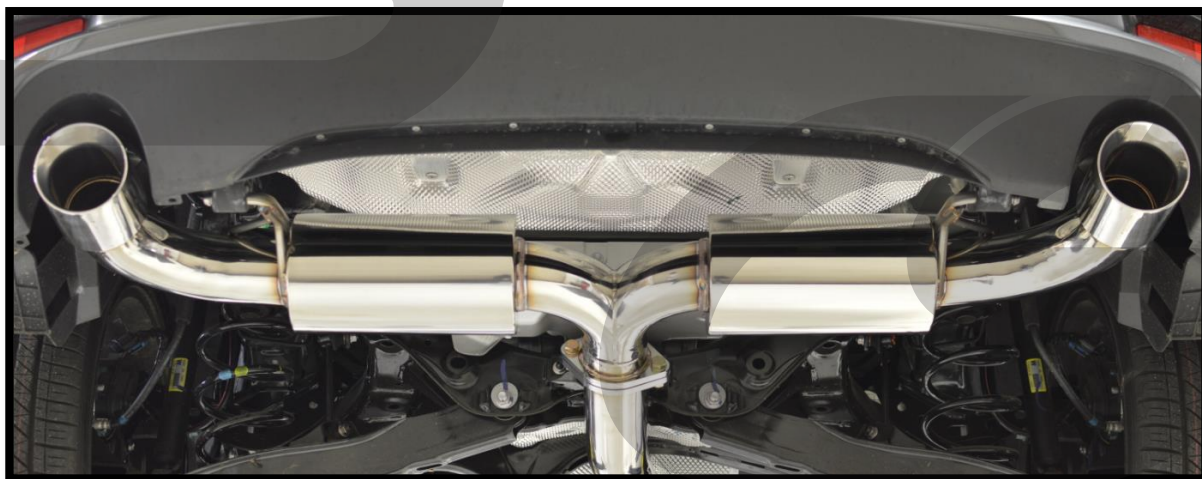

Figure 6b
b) Attach the CorkSport axle back section onto the CorkSport rear midpipe section. Use the supplied hardware & gaskets like shown in **Figure 5c & 5d**. Only hand tighten for now. **Figure 6b** shows the axleback installed.